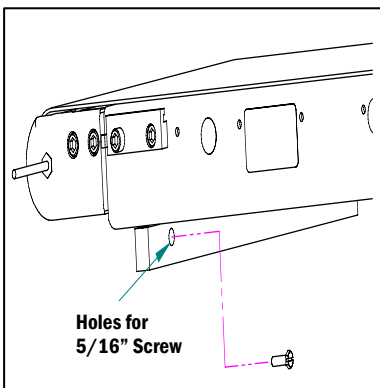

Figure 4
- Insert 5/16" diameter screws (not included) into the holes in the Bottom Mount's face, and into the surface to which it will be mounted (**Figure 4**).